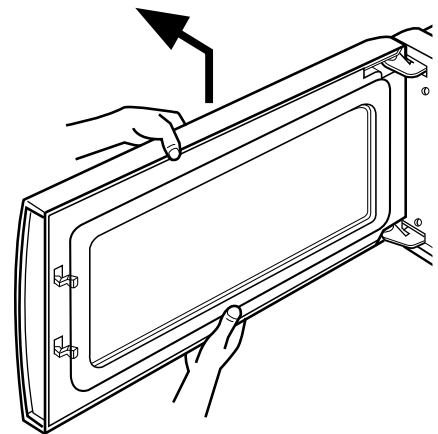

Figure 18
G. REMOVING DOOR (Figure 18)
- (1) Remove the vent grille by two screws securing it to the outcase loosening.
- (2) Lift up and draw the door.